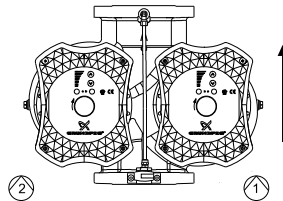

Fig. 1 Master pump (1) and slave pump (2)
The master pump will always be the pump to the right when seen from the control box end and the pump is pumping upwards. See fig. 1, pos. 1.